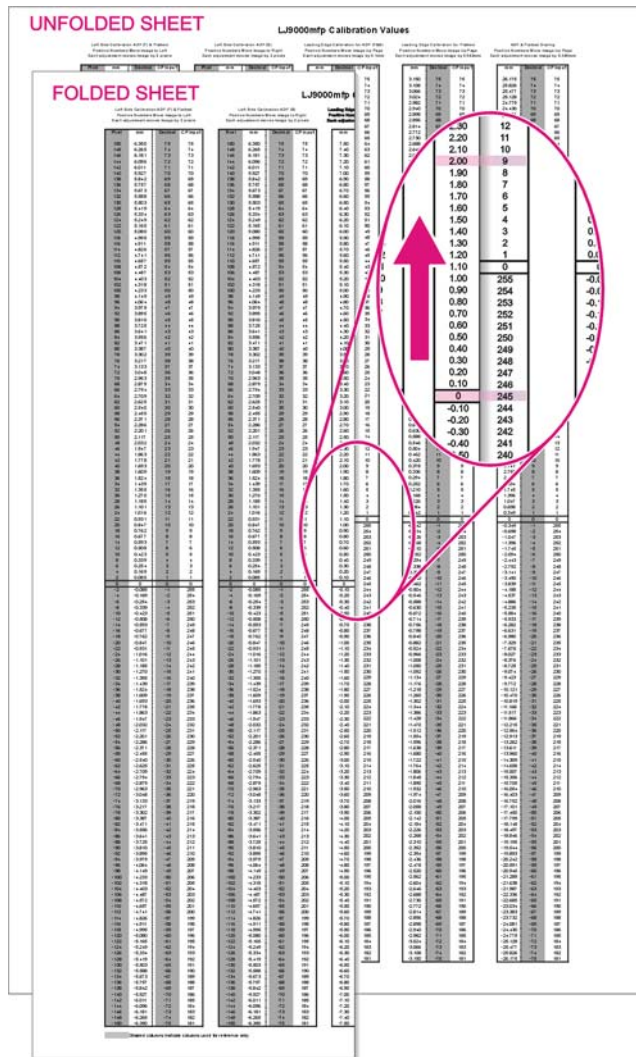

Figure 214. Left side front calibration (4 of 4)
- 11 Using the two HP LaserJet 9000mfp calibration values charts, determine the value for the left side front that will be entered into the service menu. See figure 214.
- 8 Using the two MFP calibration values charts, determine the value for the leading edge front that will be entered into the service menu. See figure 214.
- 9 Using the two MFP calibration values charts, determine the value for the leading edge back that will be entered into the service menu. See figure 214.
- 8 Using the two MFP calibration values charts, determine the value for the ADF plain scaling that will be entered into the service menu. See figure 214.
- 8 Using the two MFP calibration values charts, determine the value for the ADF heavy scaling that will be entered into the service menu. See figure 214.
- 11 Using the two MFP calibration values charts, determine the value for the left side glass that will be entered into the service menu. See figure 214.